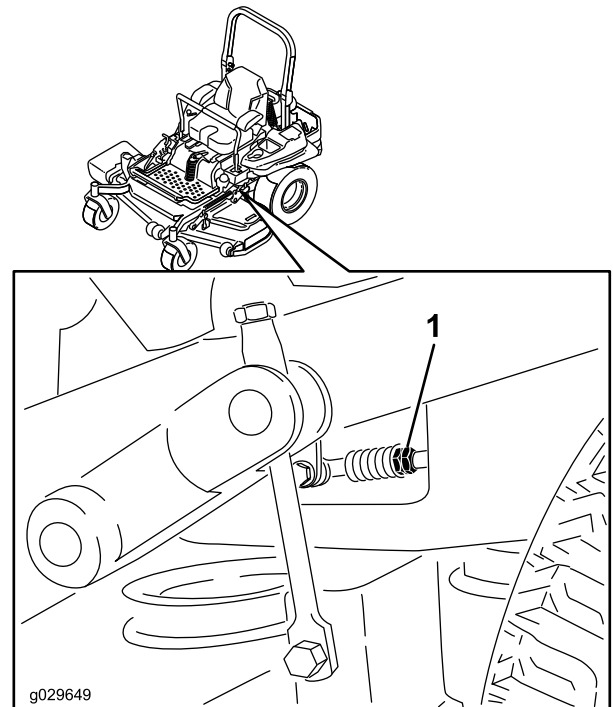

Figure 85
9. Adjust the pump-control-rod lengths by rotating the double nuts on the rod in the appropriate direction until the wheels slightly creep in reverse (Figure 85).